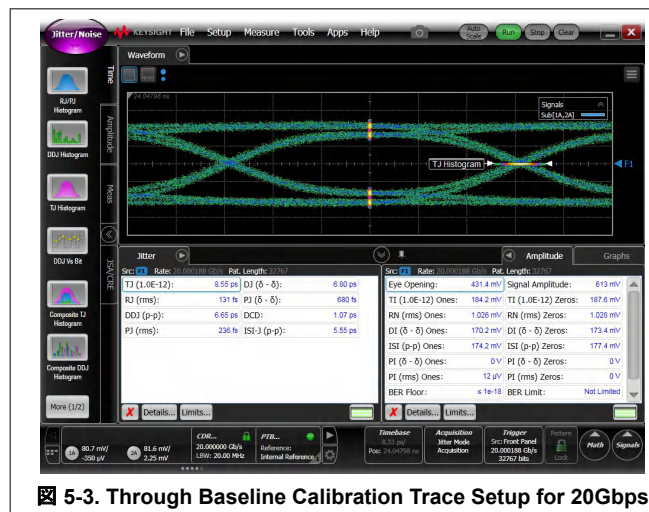
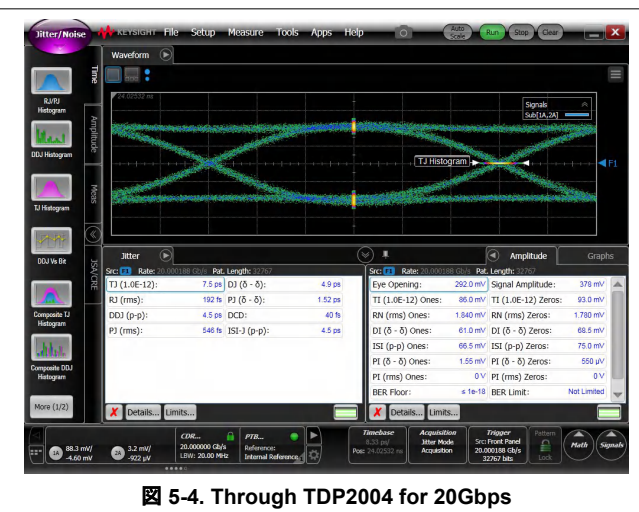

Figure 5-3. Through Baseline Calibration Trace Setup for 20Gbps
Figure 5-4. Through TDP2004 for 20Gbps
Figure 5-3 and Figure 5-4 show eye diagrams at 20Gbps that compare jitter through calibration traces (left), and jitter through TDP2004 (right) at TI evaluation boards with minimal channels. The eye diagrams illustrate that TDP2004 adds very little random jitter (RJ).